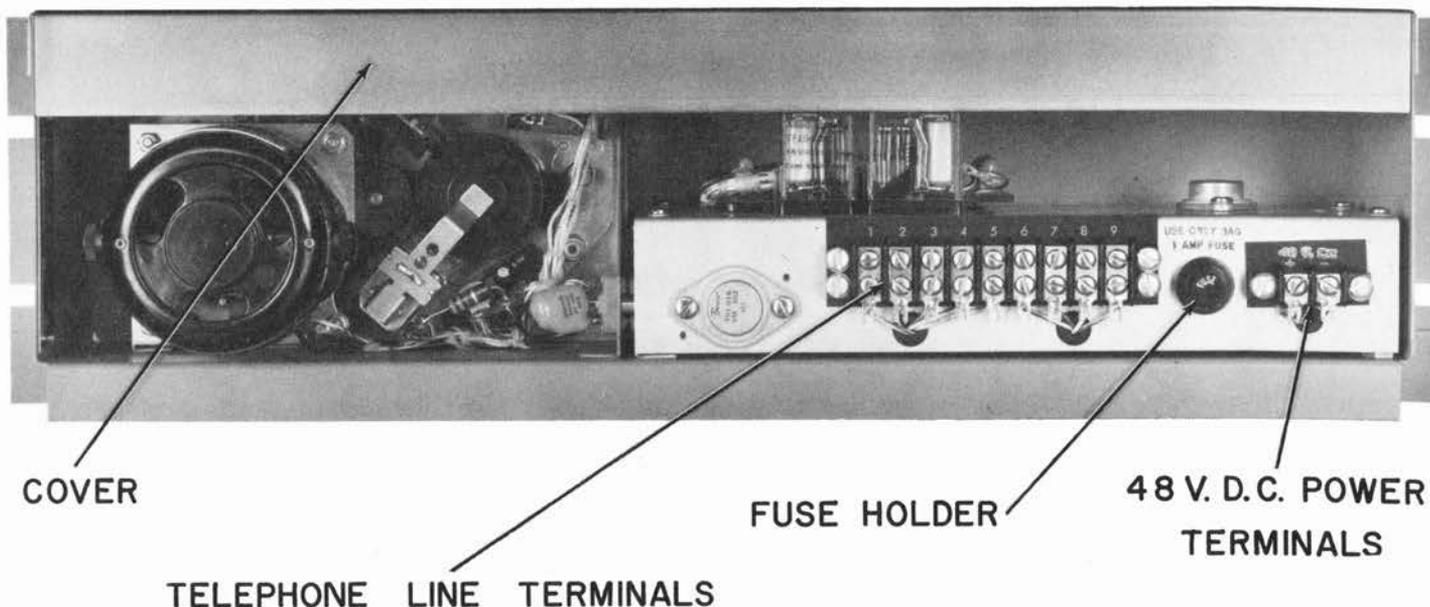

FIGURE 3-1 MODEL 210DC REAR VIEW
and 2 (fig. 3-1) whenever terminals 5 and 7 are shorted momentarily.
Connect a 44 to 52 volt D.C. battery or power supply to the POWER TERMINALS (fig. 3-1). Make sure that the correct polarity is observed, or the Model 210DC will be damaged.
5. Connect a telephone-type receiver, telephone instrument, or any speaker across telephone line terminals 1 and 2 (fig. 3-1).
- a. Remove 2 screws from top of machine and lift off cover (fig. 3-1).
- b. Remove 2 screws from top of machine and remove cover (fig. 3-1).
- a. Remove all connections from telephone line terminals (fig. 3-1).